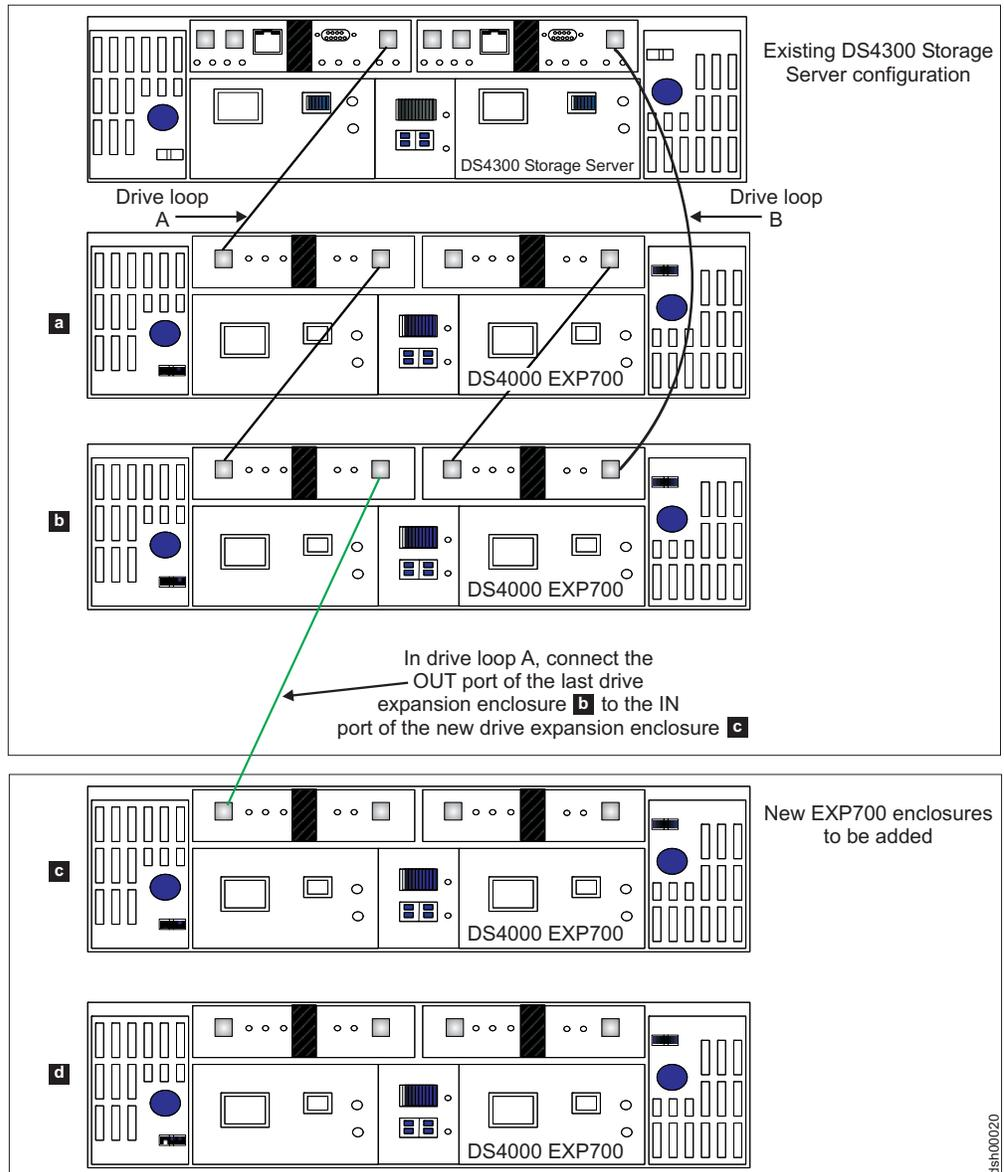
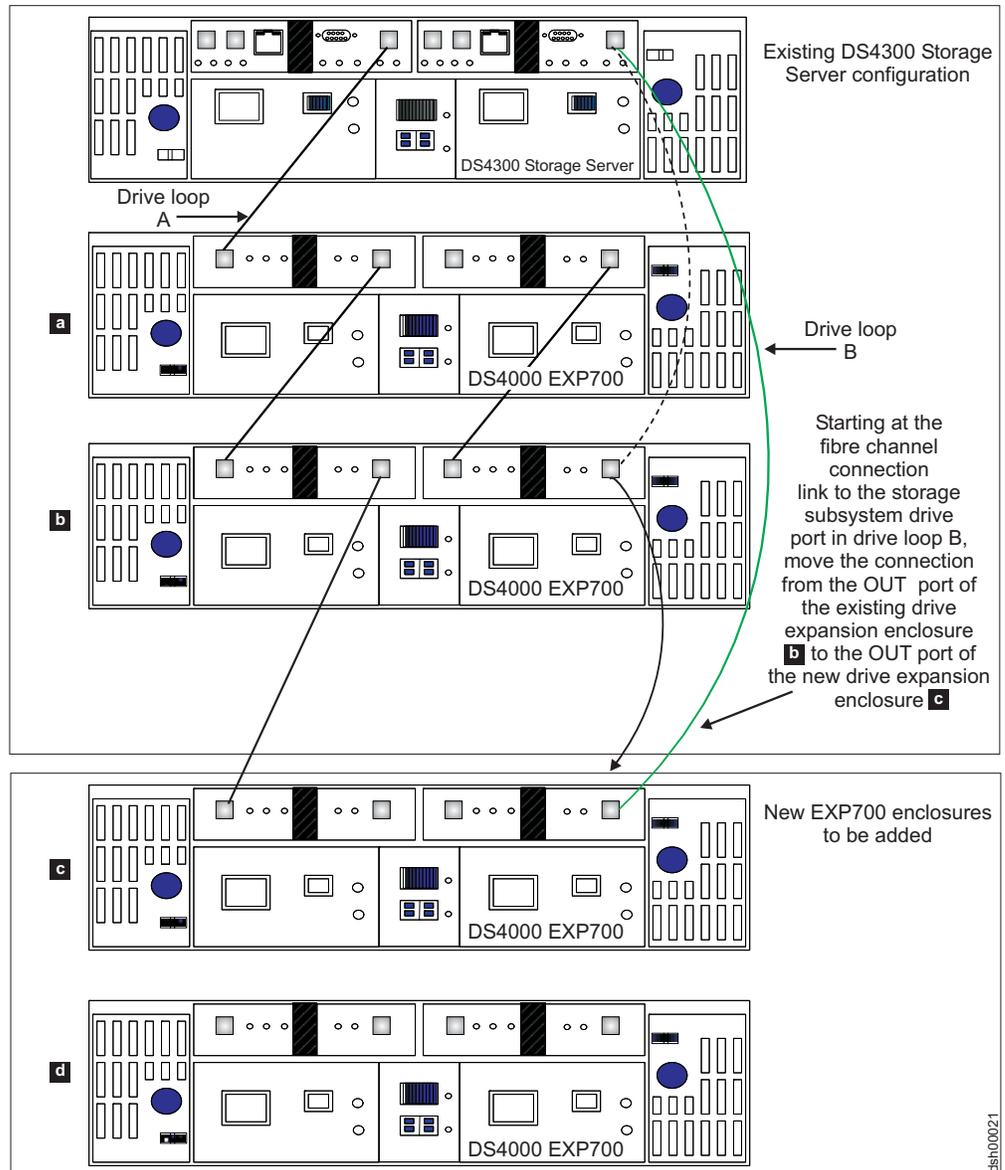
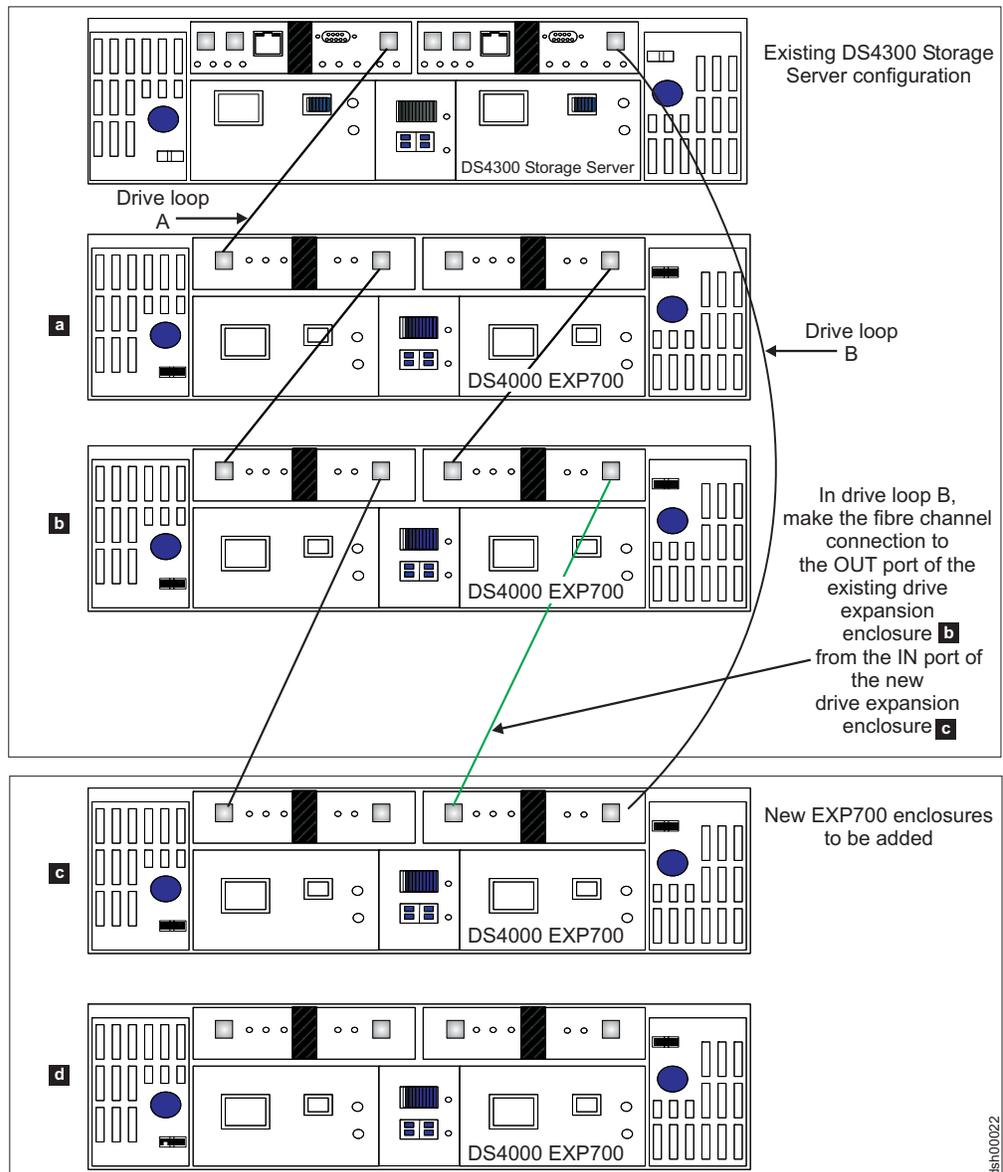

Figure 22. Cabling a single drive enclosure to the end of a functioning drive loop (step 1 of 3)
Figure 23. Cabling a single drive enclosure to the end of a functioning drive loop (step 2 of 3)
Figure 24. Cabling a single drive enclosure to the end of a functioning drive loop (step 3 of 3)
The cabling instructions illustrated in Figure 22 on page 64, Figure 23 on page 65, and Figure 24 on page 66 describe cabling a DS4000 EXP700 Storage Expansion Enclosure to the end (bottom) of a redundant drive loop of a functioning DS4300 Storage Subsystem (model 60X or 60U). IBM recommends that you add storage expansion enclosures to an existing drive loops only in this manner. See “DS4000 Storage Subsystem drive loop schemes” on page 21.
- ___ Step 2. Extend one of the drive loops (that is, drive loop A) in a DS4000 Storage Subsystem redundant drive loop pair by connecting the OUT port of the last storage expansion enclosure to the IN port of the new storage expansion enclosure as shown in Figure 22 on page 64.
- ___ Step 5. In the other drive loop (that is, drive loop B) in a DS4000 Storage Subsystem redundant drive loop pair, remove the connection from the DS4000 Storage Subsystem drive loop port to the OUT port of the last storage expansion enclosure and connect it to the OUT port of the new drive enclosure as shown in Figure 23 on page 65.
- ___ Step 7. In drive loop B, cable the new drive enclosure's IN port to the OUT port of the last enclosure in the already functioning storage expansion enclosure drive loop as shown in Figure 24 on page 66.